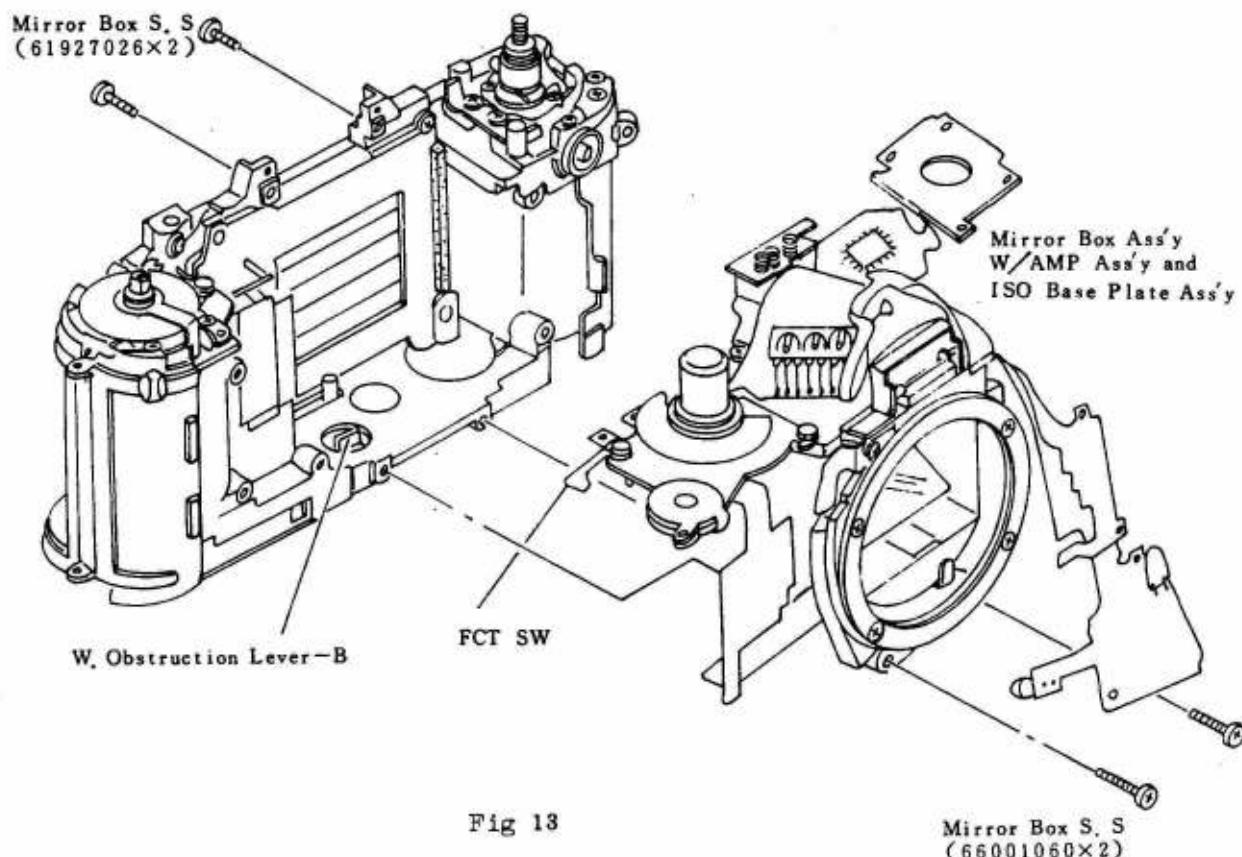

Fig 13
(Fig 13)
- b) Mount the Mirror Box parallel with front side of the camera body and Pin of ACL-1 (Fig 18) at the front of W.Obstruction Lever - B (Fig 13).